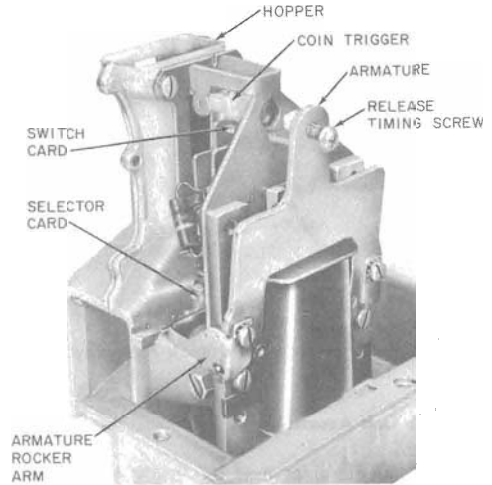

Fig. 15—P-10E683 Mechanism Unit With P-13E961 Coin Relay
- Manual or dial prepay single-coil coin relay (Fig. 15).
**2.35** Most 230-, 233-, and 234-type coin collectors are equipped with a P-13E961 coin relay (Fig. 15) which replaces the P-10E786 coin relay now rated MD. The relays are interchangeable, but most of the components are not.